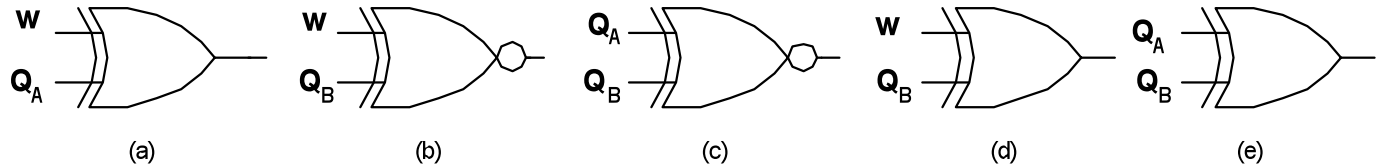

Figure 14 - Circuit implementations for questions 18 and 19.
1. Figure 14(a)
2. Figure 14(b)
3. Figure 14(c)
4. Figure 14(d)
5. Figure 14(e)